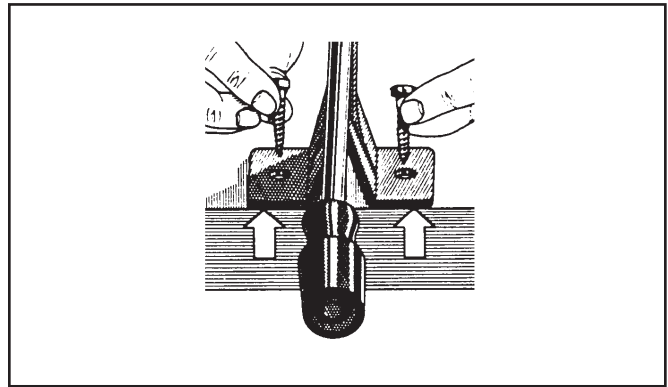

Figure 16. Rivet Spinner Mounting
1. Mount the rivet spinner flush with the side or front of a flat, clean work surface (Figure 16).